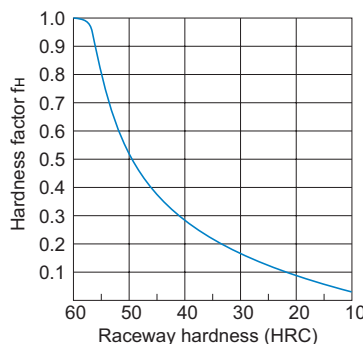

Fig.1 Hardness Factor (f_H)
- C : Basic dynamic load rating (N)
- P : Applied load (N)
- f_H : Hardness factor (see Fig.1 on A-11)